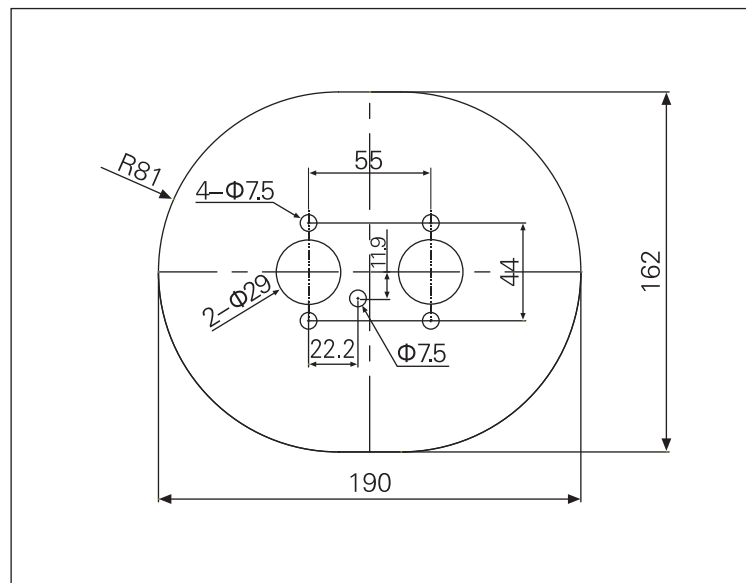

Fig. 14
4.2.4 - If the thickness of the installation panel is $< 1.5\text{mm}$, a mounting plate is needed. The gab between the mounting plate and the car body must also be sealed (Fig.14). Please confirm the actual size with the real product.